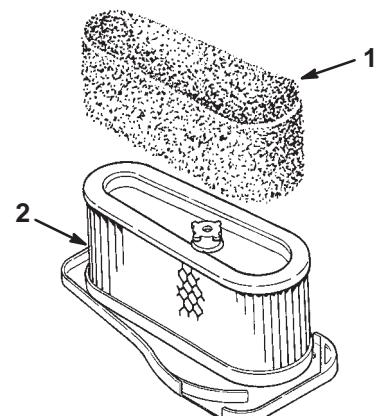

Figure 21
9. Carefully slide the foam element off the paper element (Fig. 21).
1. Carefully slide the foam element onto the paper air cleaner element (Fig. 21).